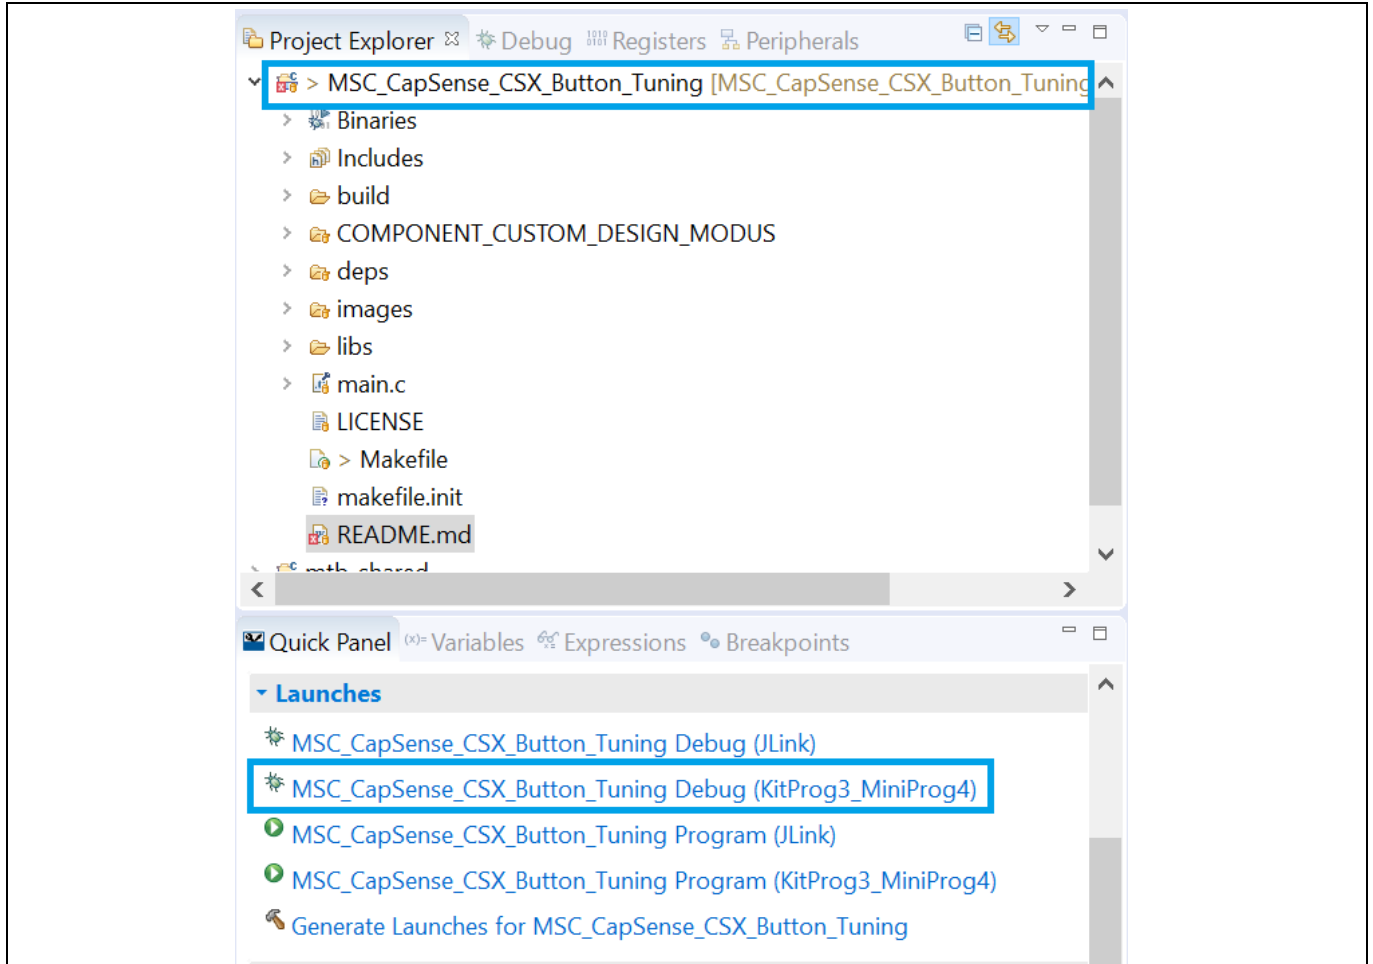

Figure 12 **Debug the code example**
4. ModusToolbox™ has an integrated debugger. To debug a PSoC™ 4100S Max MCU application, in the Project Explorer, select <App_Name> project. In the Quick Panel, scroll to the Launches section and click the <App_Name> Debug (KitProg3_MiniProg4) configuration as shown in **Figure 12**. For a detailed explanation on how to debug using ModusToolbox™, see **KBA224621**.